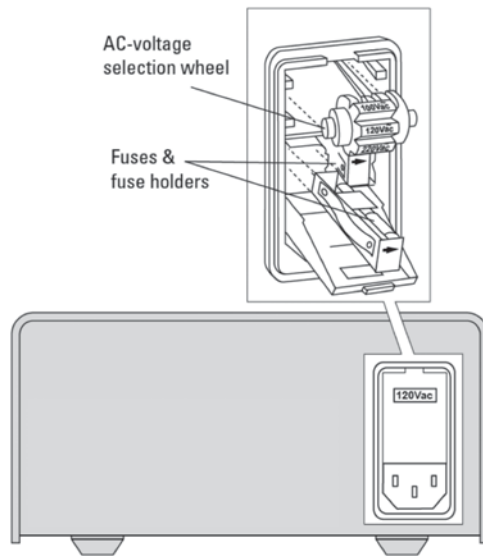

Figure 3: Power module with the cover open
4. Remove the AC-voltage selection wheel from the unit. Do not attempt to rotate the wheel while it is still in the power module; the wheel must be removed, turned, and then reinserted for proper operation. (See Figure 3.)